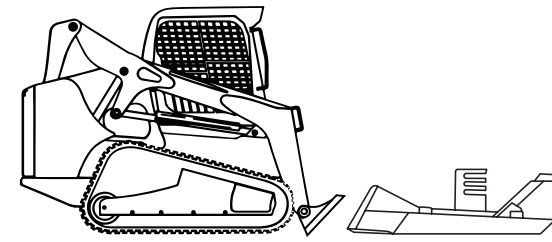

Figure 4.2a Cutter Mounting
2. Tilt the skid steer loader quick attach coupler slightly down and drive forward to the rear of the cutter until the top edge of the quick attach coupler connects into the attachment bracket (Figure 4.2a).